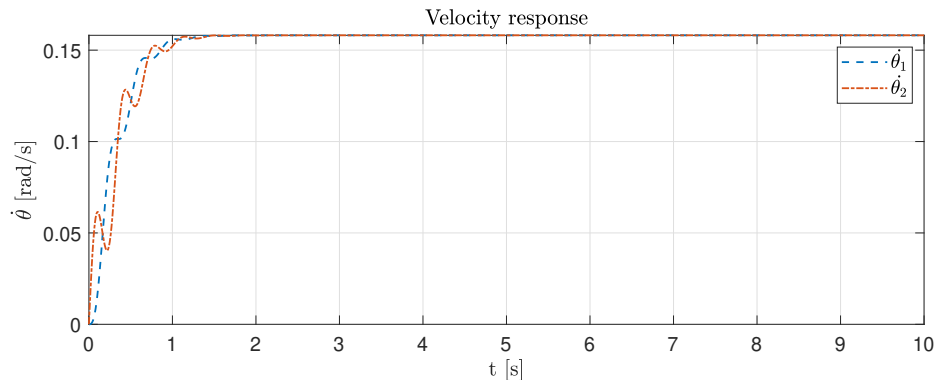

Figure 3: System response in velocity.
2) The guessed value for k has been derived from $k = \frac{GI_{xx}}{L}$ where it has been used aluminum and a bar with $L = 28 \text{ mm}$, $D = 50 \mu\text{m}$, which leads to a $k = 22.77 \text{ N/m}$, while the friction coefficient b has been supposed: $b = 4 \text{ kg}\cdot\text{m}^2$. Figure 3 shows the system response, in particular it is possible to notice a delay of $\dot{\theta}_1$ at the very beginning with respect to $\dot{\theta}_2$ due to the inertia J_2 and then a series of oscillations in angular velocities because of the spring behaviour, however, at the steady-state the two disks rotate at the same angular velocity.